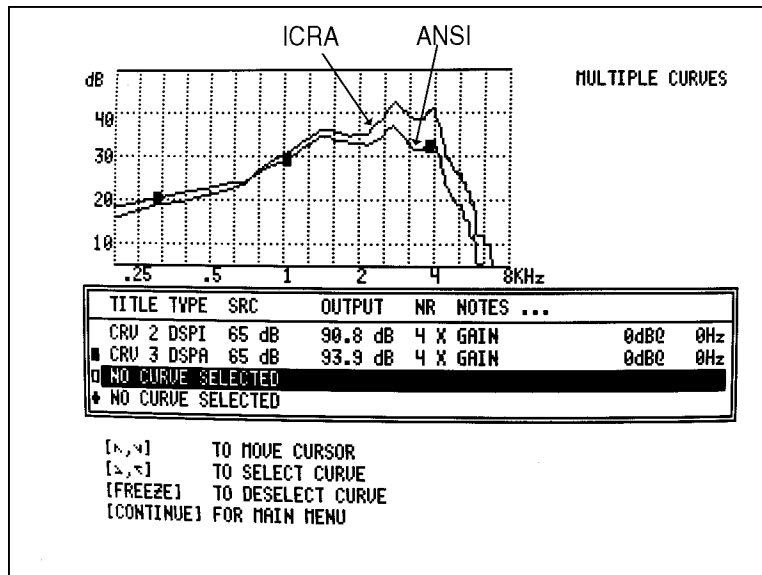

Figure 7.4.3—Comparison of response of an aid to ICRA (CRV2) with ANSI (CRV3)
4. Press [CONTINUE] to exit. See Figure 7.4.3 for a comparison of the response of an aid to the ANSI and ICRA spectra.